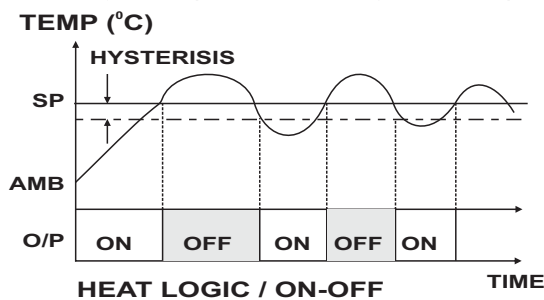

Fig: 3.1
**ON-OFF ACTION :** In this mode, Output (Relay/SSR) remains ON till actual temperature reaches to the set point value. On reaching SP, Output turns OFF & remains OFF till actual temperature drops down (in Heat logic) or raises (in Cool logic) equal to hysteresis set by User. (As shown in Fig : 3.1 & 3.2)